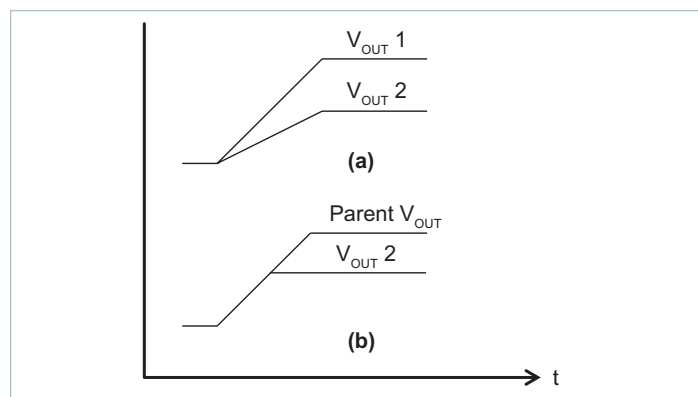

Figure 46 — PI33xx tracking methods
There is typically either proportional or direct tracking implemented within a design. For proportional tracking between several regulators at start up, simply connect all devices TRK pins together. This type of tracking will force all connected regulators to start up and reach regulation at the same time (see Figure 46(a)).
All connected regulators' soft-start slopes will track with this method. Direct tracking timing is demonstrated in Figure 46(b). All tracking regulators should have their Enable (EN) pins connected together to work properly.